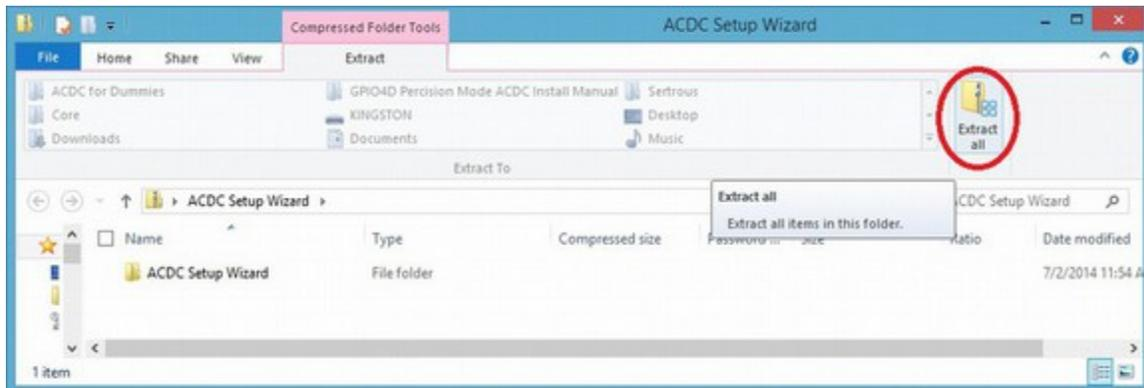

Figure 3.3.1
2. **Extract/Decompress the downloaded file.** Double click on the downloaded file. Extract the compressed file. On Windows 8 extraction is done by clicking on the “Extract all” button as shown below in Figure 3.3.1.